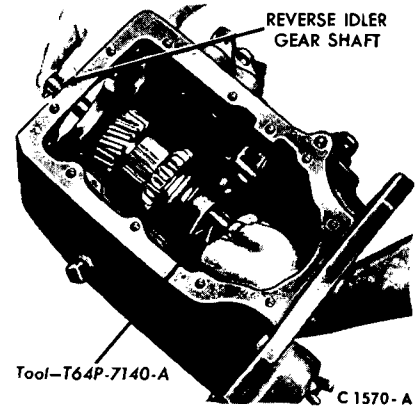

FIG. 10—Removing Reverse Idler Gear Shaft
20. Remove the reverse idler gear shaft from the case as shown in Fig. 10.